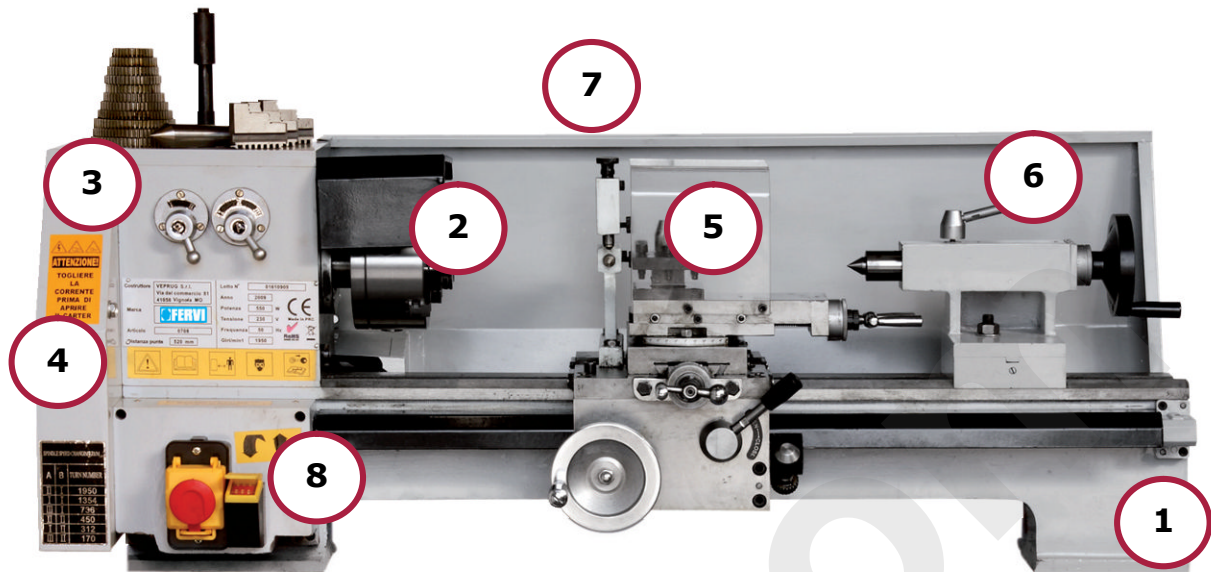

Figure 2 - Main Parts
The **Gear bench lathe (Art. 0708)** consists of the following main parts (see Figure 2):
The supporting table (ref. 1 in Figure 2) is made of cast iron; the casting has been stabilized to avoid twisting and/or deformation due to the internal stresses in the material. In the upper part there are prismatic guides that ensure the movement and alignment of the drive head with the carriage and the moving head (tailstock). The guides are hardened and ground. Reinforcement ribs have been incorporated that increase rigidity.
The feeding speed change gearbox (with replaceable gears, ref. 4 in Figure 2), is positioned at the left end of the machine. The lathe is provided with gears able to guarantee a considerable availability of feeds and threads (metric and inch). Spacing selection is performed through the application of the corresponding gears. During the rotation of the gears, they are automatically lubricated.